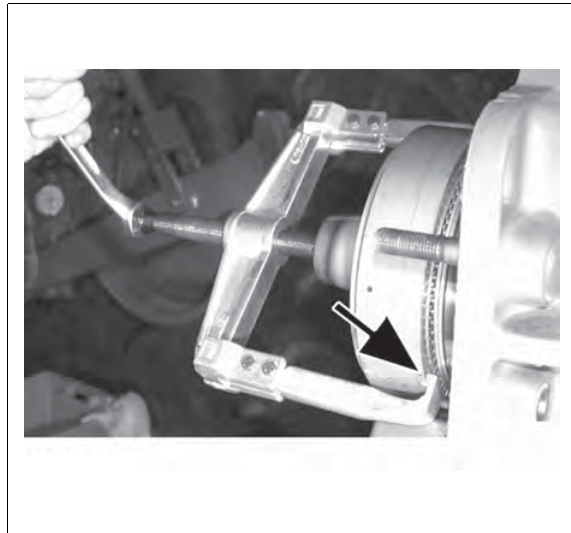

Fig. 7.
13. Fit an M12 screw (1) to the nozzle location. The clutch bell housing has been removed to improve visibility, because the M12 screw serves as a support for the puller when extracting the clutch bell housing *fig. 7*.